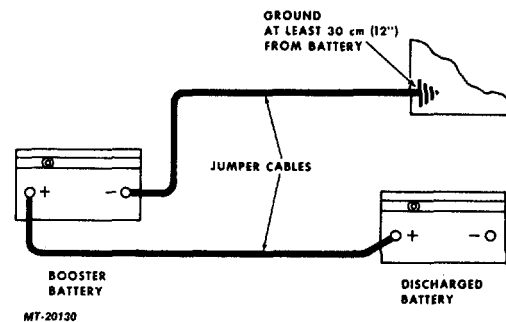

Fig. 6 Proper Jumper Cable Connections (Negative Ground Vehicles Shown)
2. Attach one end of one jumper cable to the positive (+) terminal of the booster battery and the other end of same cable to positive (+) terminal of discharged battery (Figure 6).
3. Attach one end of the remaining jumper cable to the negative terminal of the booster battery and the other end to a ground at least 304 mm (12") from the battery of the vehicle being started (Figure 6). (**DO NOT** connect directly to the negative post of the dead battery.)